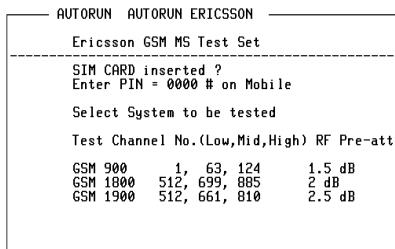

Fig 10.3: Starting test:
5. Set test parameters with **[SETUP]** (see **Fig. 10.3**). See following section for details.
(EXIT) halts the test. Then, STABLOCK shows the Starting test mask (**Fig. 10.3**) again.